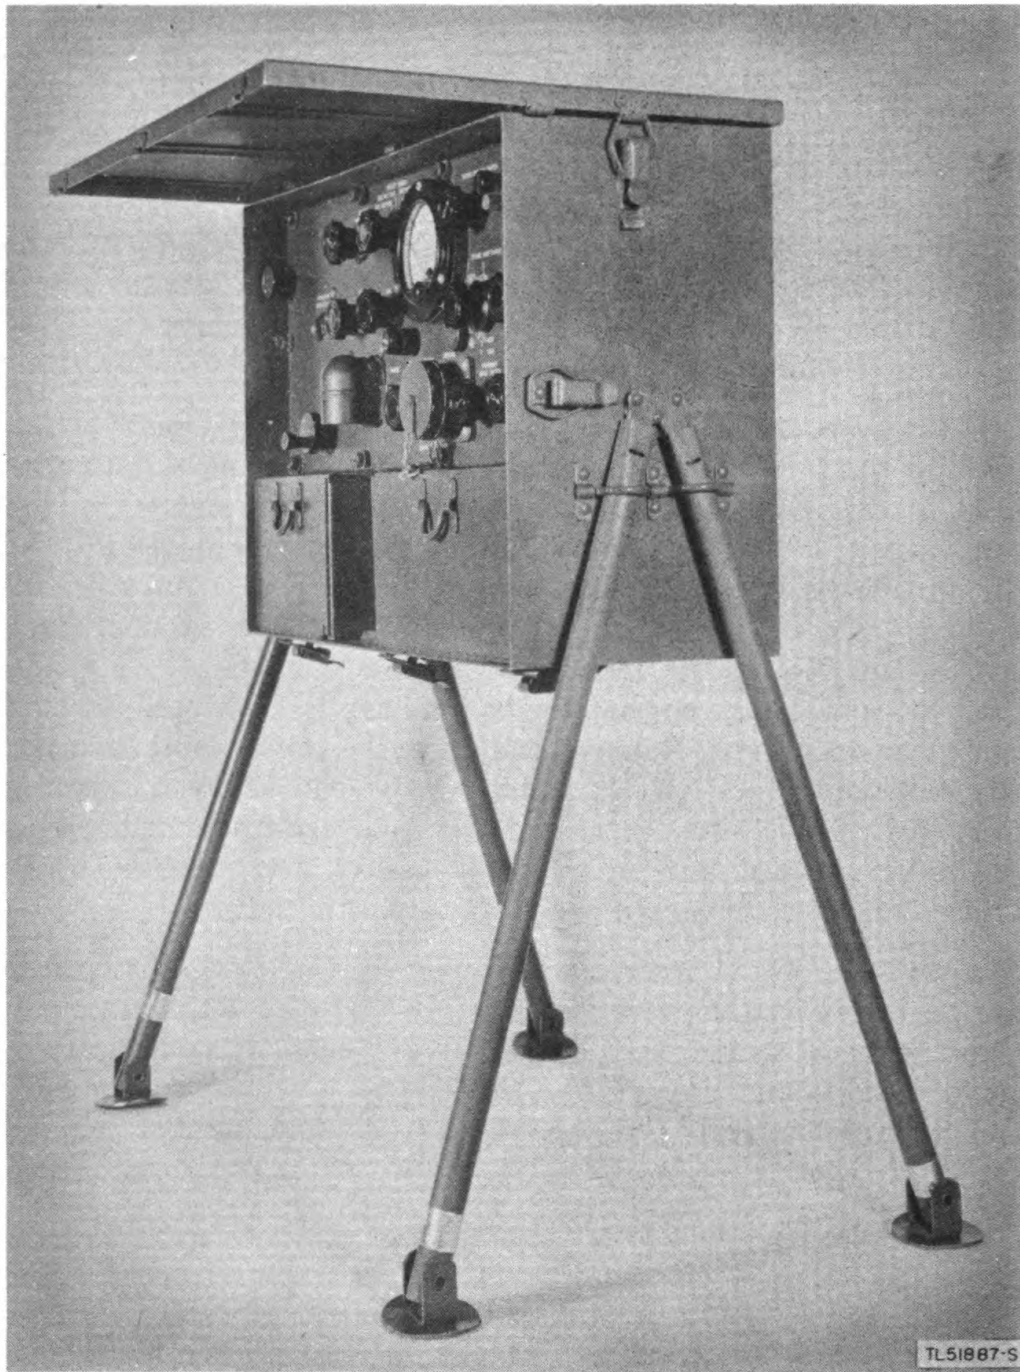

Figure 13. Method of fastening legs and cover to receiver-transmitter.
(1) Remove Case CY-49/TRC-10, containing the receiver-transmitter, from its rubber container and slip the four supporting legs in place (fig. 13) with the hinged feet down.
(2) Remove the cover from Case CY-49/TRC-10 and place it in position on top of the case (fig. 13) with the three projections on the inside of the cover to the rear. Hold in place by securing the two side fasteners.